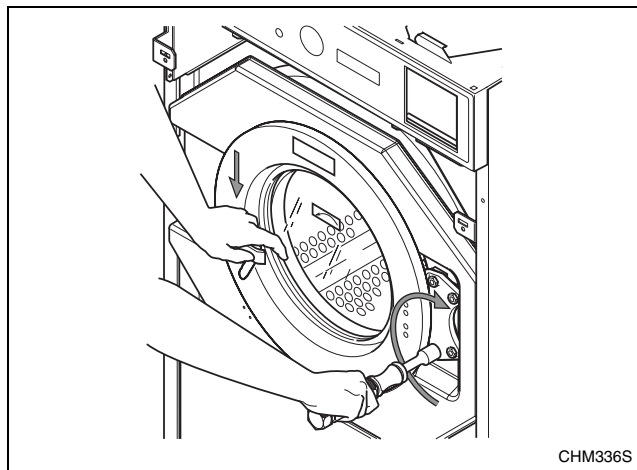

Figure 57
5. While pushing the door handle down against the L-catch, retighten the door hinge nuts. Refer to *Figure 57*.